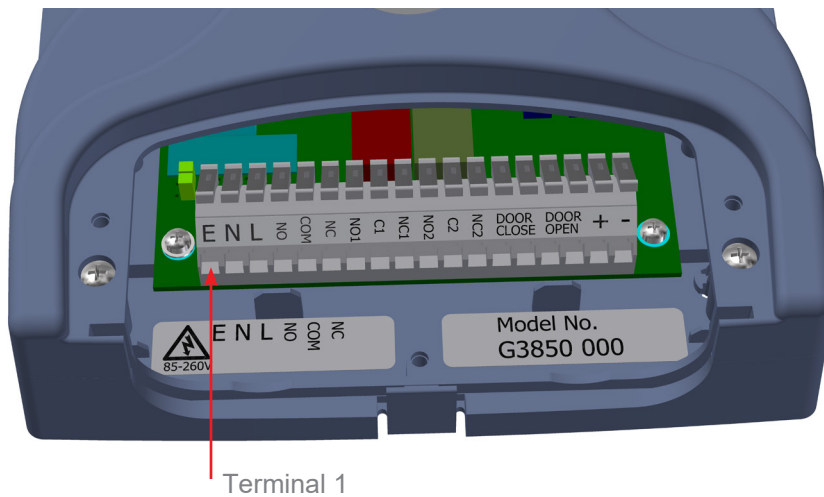

Fig 3: Installation
2. Connect the Controller with the correct supply voltage and Inputs (see Fig 3 below)